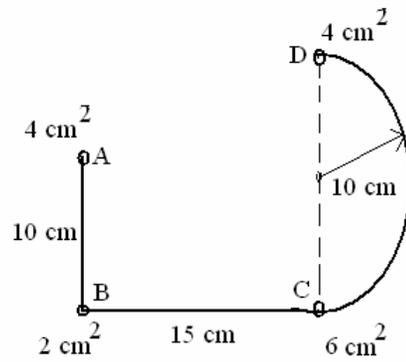

Figure 2 (a)
22. (a). Find the Shear Center for the section shown in figure 2 (a). (14)